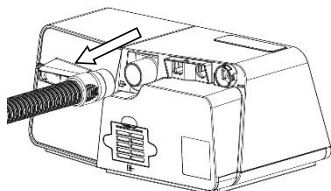
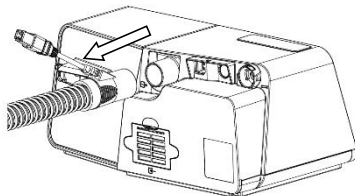

Fig. 18-4
Fig. 18-5
- (1) Remove the tubing from the device and mask before cleaning.
- (2) Hold the cuff of the tubing and gently pull it away from the device as shown in Fig. 18-4. Or disconnect the power of the heated tubing, then hold the cuff of the heated tubing and gently pull it away from the device, as shown in Fig. 18-5.